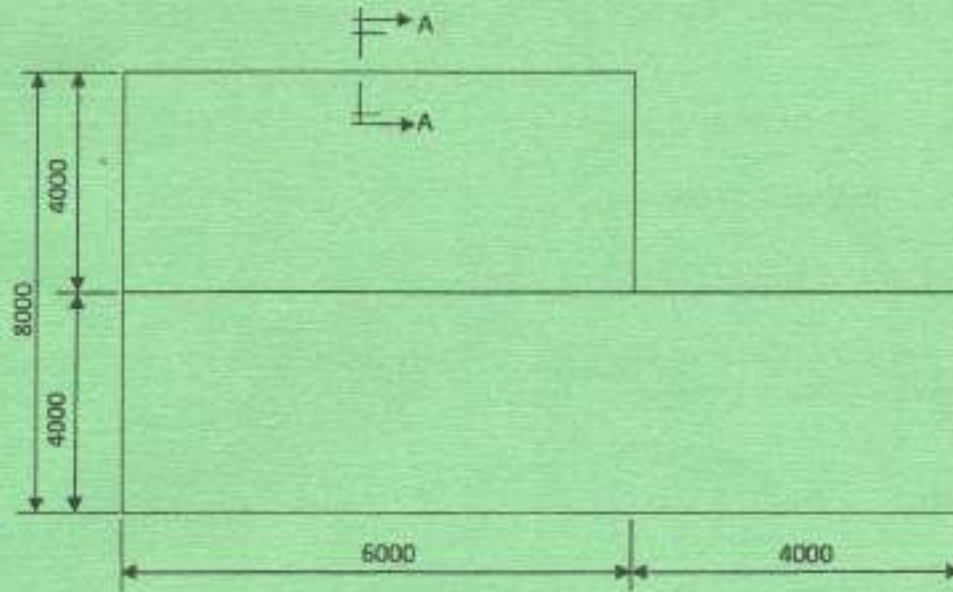

Fig. 2
7. (a) Figure 2 shows an outline plan of a farm house, whose external walls are on a reinforced strip foundation and the oversite concrete is resting on a ground beam. To a scale of 1:5 draw section A - A given the information: (15 marks)